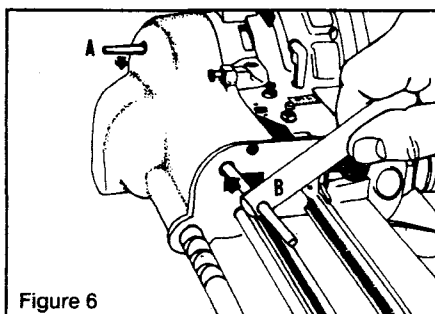

Figure 6
## 2.9 TO REMOVE SHARPENER FROM MACHINE (Figure 6)
- Figure 6: Disengage Tripper Handle "A" by inserting handle of Knife Key "B" through hole in lower cover and pressing upwards until Tripper Handle snaps back to its "off" position.